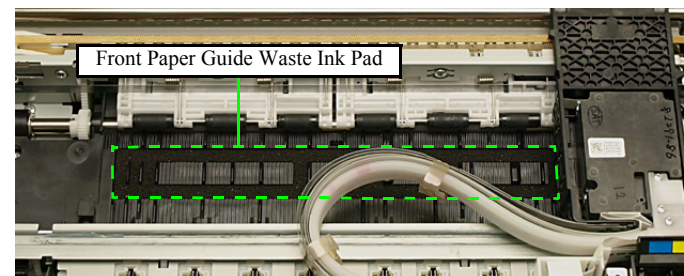

Figure 4-111. Removing the Front Paper Guide Waste Ink Pad
- **Install the Front Paper Guide Waste Ink Pad without any gap.** (See Fig. 4-111.)